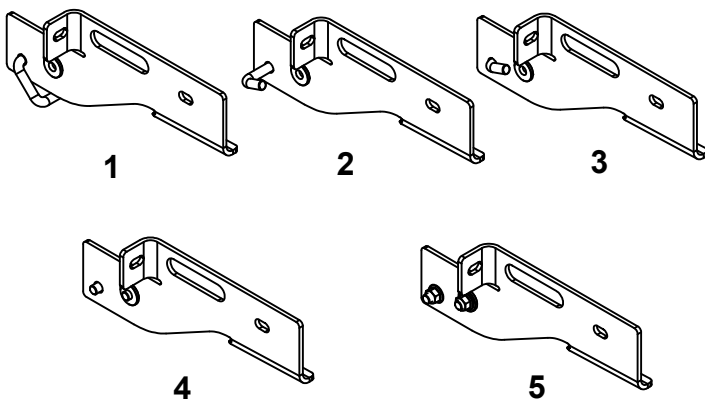
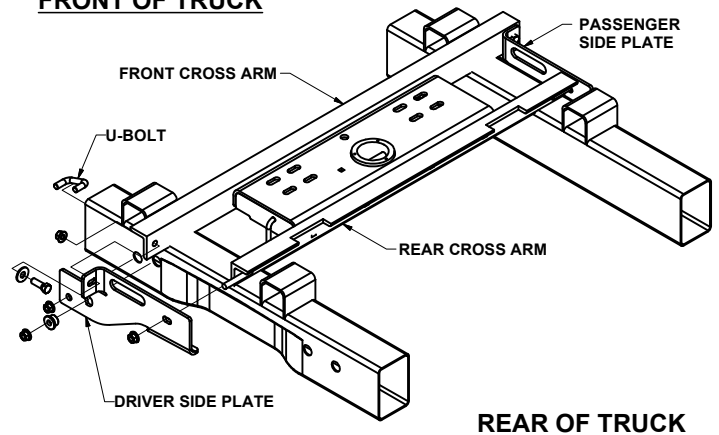

FIGURE 1
FIGURE 2
- 2) Using a 1/2" drill bit, drill the center of each slotted hole in the gooseneck. (**Note: Be sure the holes are drilled in the lower rib section of the truck bed as shown in FIGURE 1.**)
- Raise the center section in position between the cross arms with the **ball cylinder towards the rear of the truck**. The round hitch receiver that protrudes from the top of the center section must fit through the hole in the truck bed. Using (8) 1/2" carriage bolts and flange nuts, attach the center section to the square holes in both cross arms. **(Finger tight only.)**
- Square the center section and cross arms across the frame. Hang the side plates from the 1/2" studs extending from the rear cross arm. Fasten them with 1/2" flange nuts **finger tight only**. Next, bolt the front flange of the sideplate to the front cross arm using a 1/2" x 1 1/2" hex bolt, 1/2" washer, and 1/2" flange nut as shown in **Figure 2**. The two holes at the front of the sideplates should now be aligned with two holes in the frame behind the shock and shock mount. Use the 2" U-bolt with one flange nut placed loosely to one end of the U-bolt and place the opposite end into the smaller hole at the front of the sideplate and twist through the frame until the threaded end is protruding out the other hole of the sideplate as shown in **Figure 1**. Place the U-bolt bushing over the U-bolt and into the hole of the sideplate and frame. Make sure to penetrate the frame with the bushing in order for the sideplate to rest flat against the frame. Now attach a 1/2" flange nut and **finger tight only**.